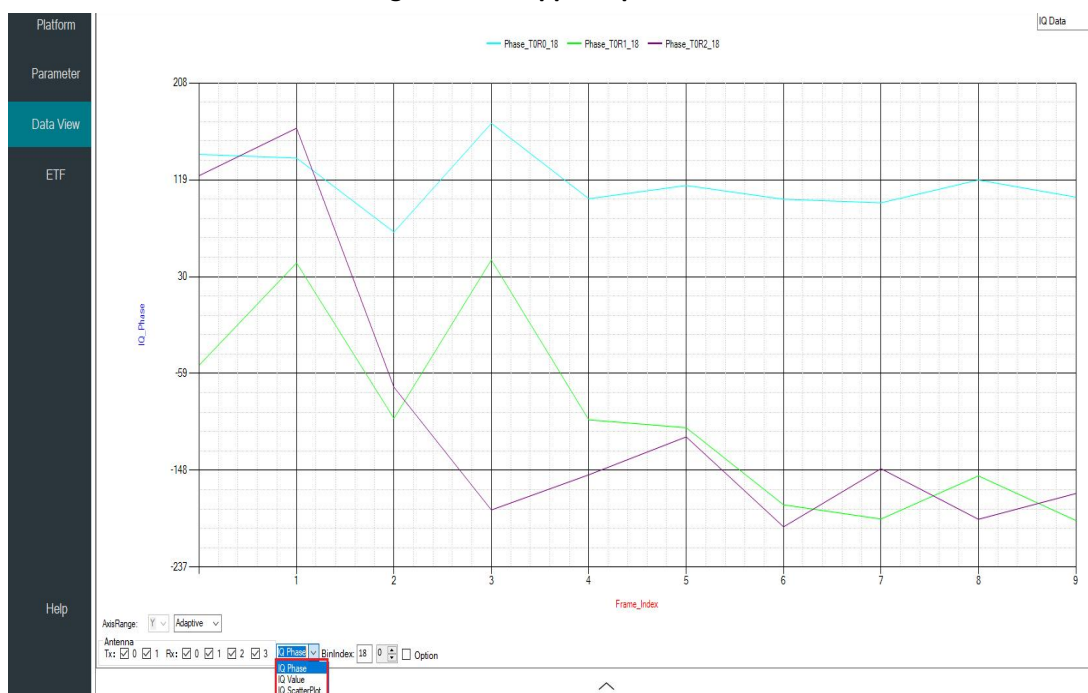

Figure 2-38 IQ Plot Data-Type Selection
6、 As shown in Figure 2-38, IQ Plot visualizes the zero-velocity component of a specified range bin. Three IQ data types are available: IQ Value Plot, IQ Phase Plot, and IQ Scatter Plot. The Range Bin text box selects a bin within the specified range. The NumericUpDown control to the right expands the displayed interval on both sides of the selected bin. Up to three range bins can be displayed simultaneously; therefore, NumericUpDown ranges from 0 to 1.